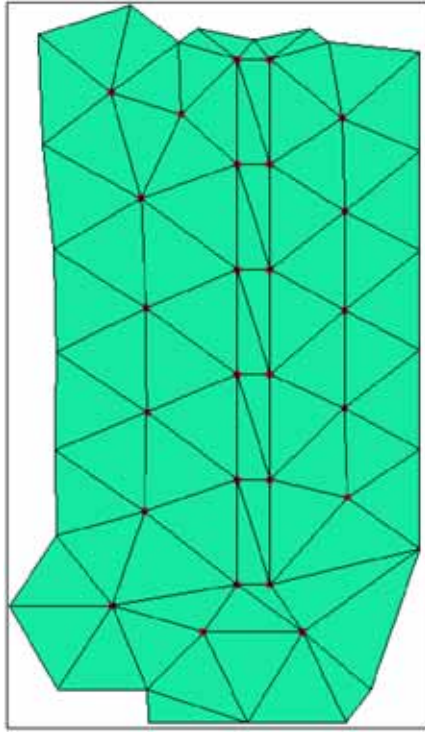

Figure 27: Completed Fix 3 area
- When done, the Fix 3 area should look like Figure 27.